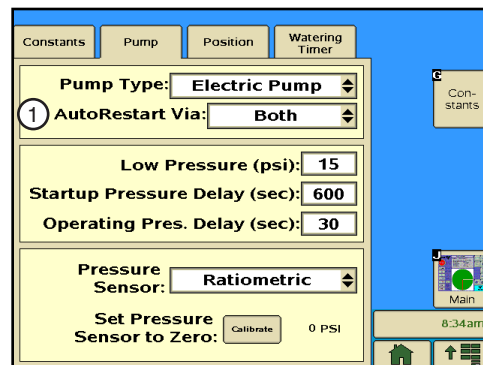

Figure 27-1 1. AutoRestart Via Field
1. Select the **AutoRestart Via:** field. Refer to Figure 27-1.